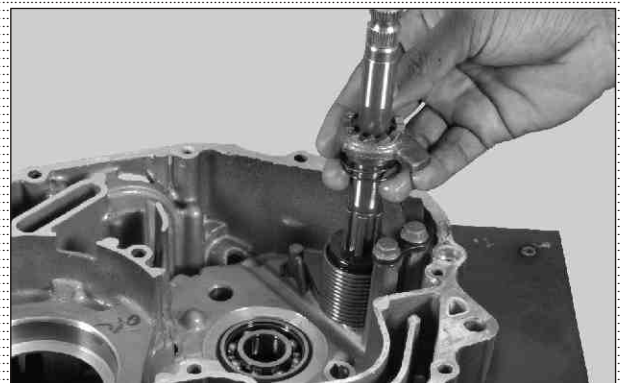

Fig. 3.105
- Take out starter kick and spring kick starter from the shaft kick starter. (Fig. 3.105)